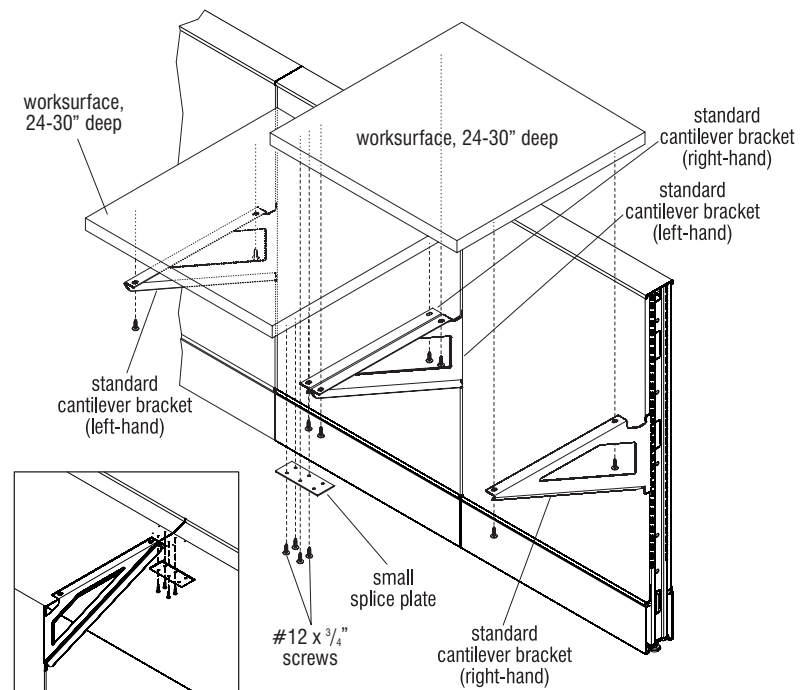

Figure 3 - Standard Cantilever Bracket Installation with 24-30" Worksurfaces
Note: When 24-30" deep worksurfaces are installed adjacent to each other, right- and left-hand cantilever brackets will be installed side-to-side with the flat faces touching. A small worksurface splice plate must be installed between the adjoining worksurface pairs, in front of the cantilever bracket pair to keep worksurface tops aligned (Figure 3).
2. Carefully place worksurfaces onto installed cantilever brackets and align mounting holes of brackets to pre-drilled holes in underside of worksurfaces. Secure using two #12 x 3/4" screws per bracket. Take care to not over-tighten the screws (Figure 3).